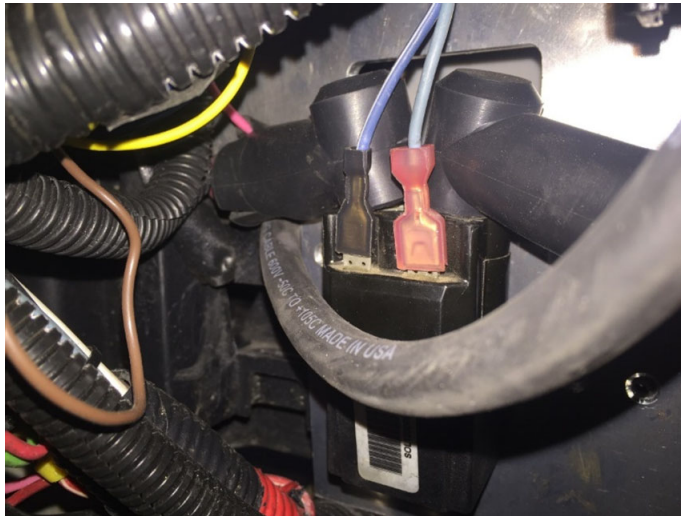

Fig. 25- Install pack positive cable onto contactor
14. Carefully remove the electrical tape off of the pack positive cable lug install the lug onto the contactor. (Fig. 25)